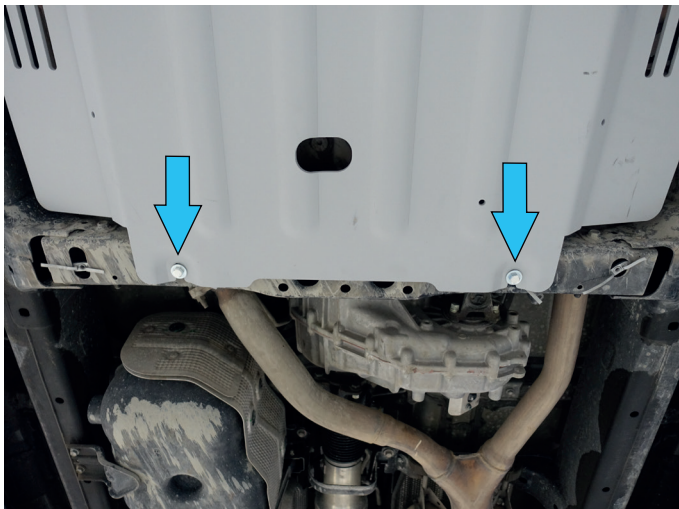

Fig. 3
3. Slide the transmission skid plate (item 1) under previously installed M8x25 bolts and M8 washers from step 2 as shown in fig.3.